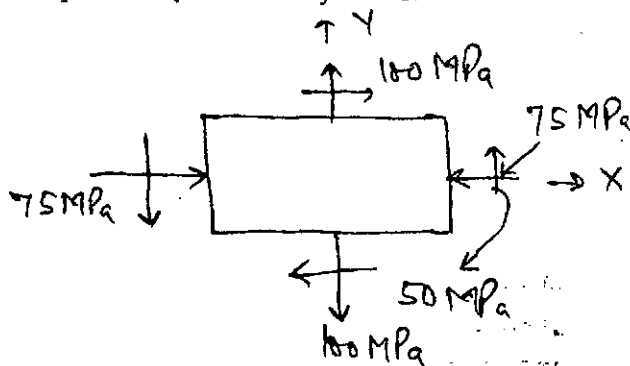

Fig. 4
- (b) A plane element is subjected to the stresses shown in fig. 4. Using Mohr's circle, determine (i) the principal stresses and their directions and (ii) the maximum shearing stresses and the directions of the planes on which they occur. 10